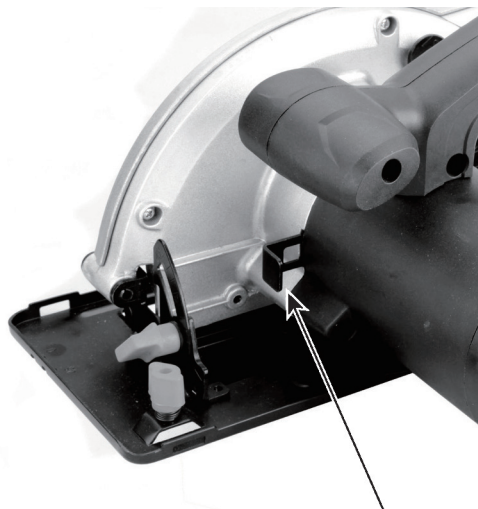

Fig. 3
2. Push the spindle lock button (13) toward motor housing as the arrow shows in fig. 3 and firmly hold it.
3. Turn the blade clamp bolt (11) anti-clockwise.
4. Remove the blade clamp bolt and outer flange (10).
5. Raise the lower guard (12) by using the lever for
- lower guard (1), and then remove the saw blade.